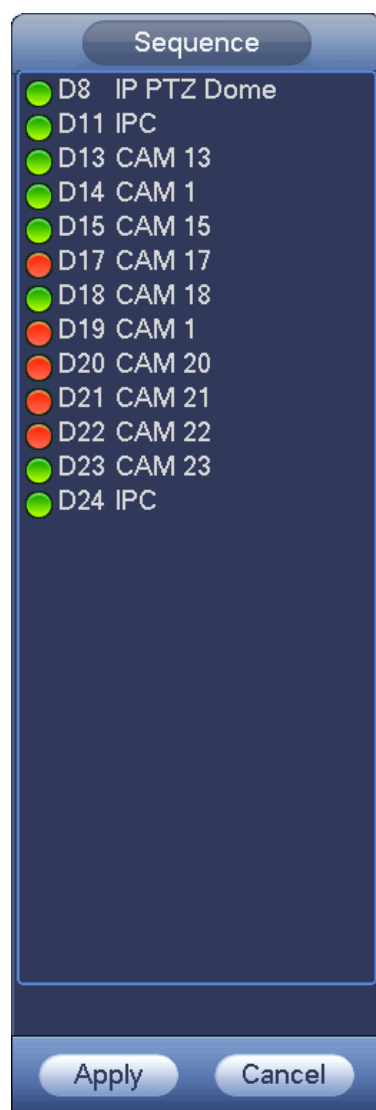

Figure 4-68
Enter edit view interface. See Figure 4-68.
- In case the channel amount has exceeded the device max split amount, the edit view interface can display the max screen number amount and current screen number. In Figure 4-68, click  or , switch the video from other channel.